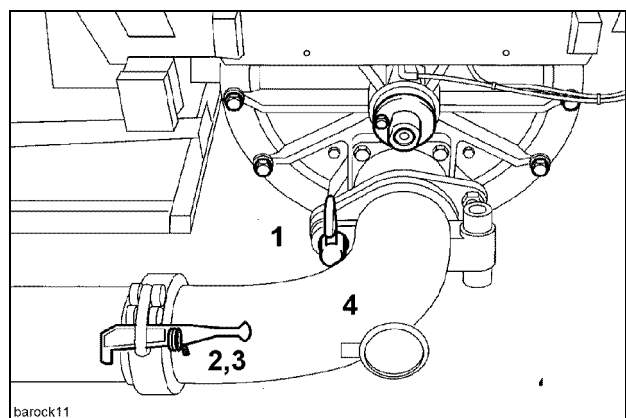

Fig.: 12
- Remove the wedges 1+2, as well as the coupling 3 (Fig.: 12) for truck-mounted concrete pumps.